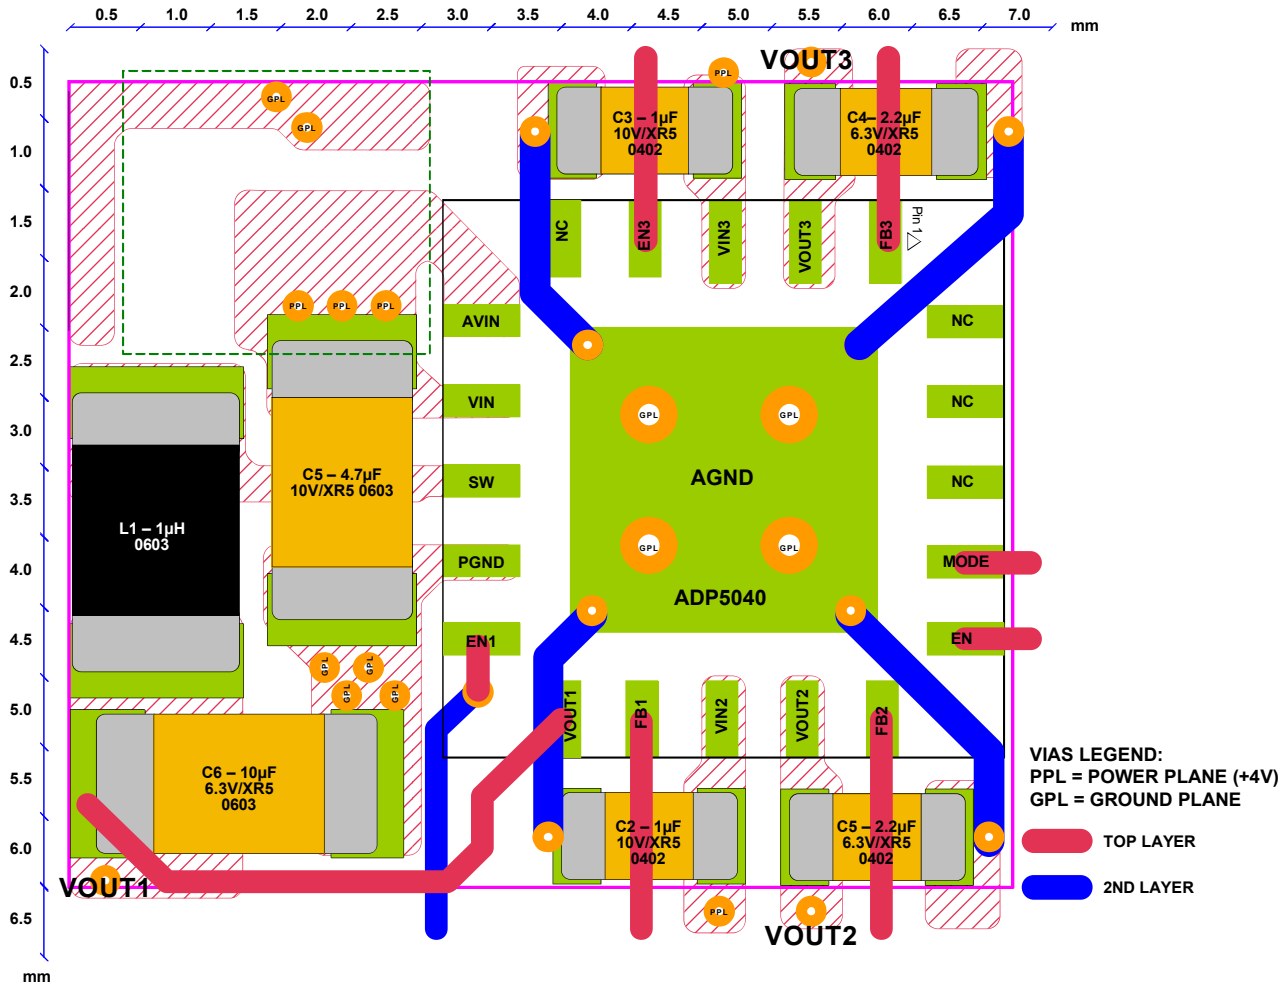

Figure 109. Evaluation Board Layout
The typical θ_{JA} value for the 20-lead, 4 mm × 4 mm LFCSP is 38°C/W (see Table 6). A very important factor to consider is that θ_{JA} is based on a 4-layer, 4 inch × 3 inch, 2.5 oz copper, as per JEDEC standard, and real applications may use different sizes and layers. To remove heat from the device, it is important to maximize the use of copper. Copper exposed to air dissipates heat better than copper used in the inner layers. The exposed pad (EP) should be connected to the ground plane with several vias as shown in Figure 109.
- See Figure 109 for an example layout.